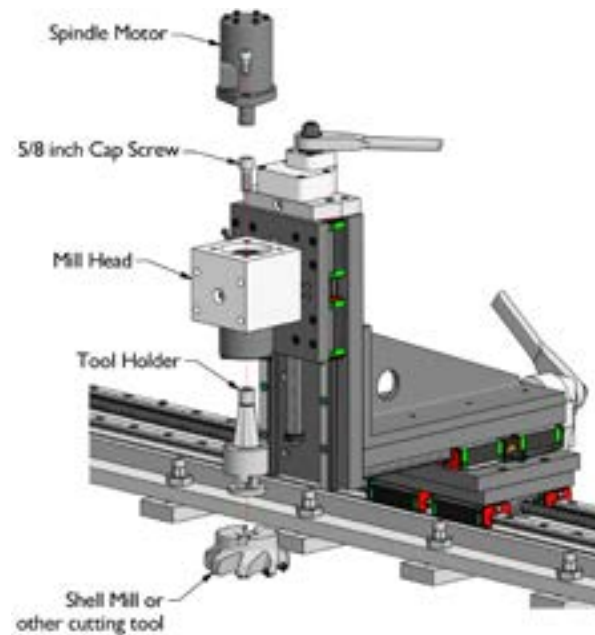

Figure 6 - Install Cutting Tool
2. Install the cutting tool onto the tool holder. Remove the spindle motor to access the 5/8 inch cap screw holding the tool holder in the mill head. Remove the tool holder from the mill head. Assemble the tool holder and cutting tool and assemble the mill head. See Figure 6.